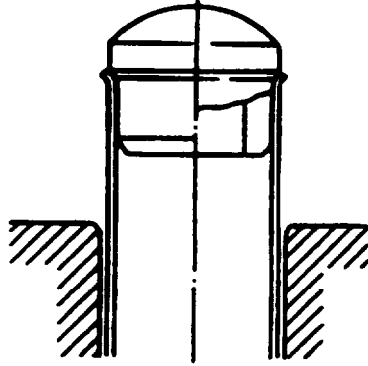

FIGURE 3-115. Cylinder Liner Installation
- (3) Insert cylinder liner into cylinder block from top, refer to FIGURE 3-115.